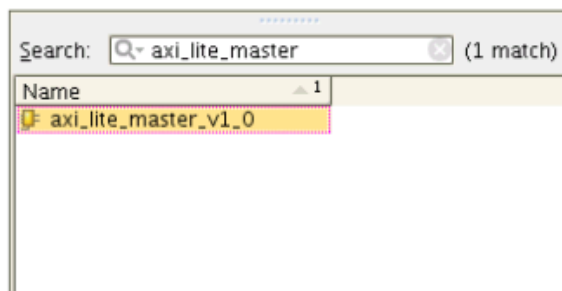

Figure 32: IP Integrator IP Search Box
4. In the Search box, type axi_lite_master (Figure 32) and press Enter.